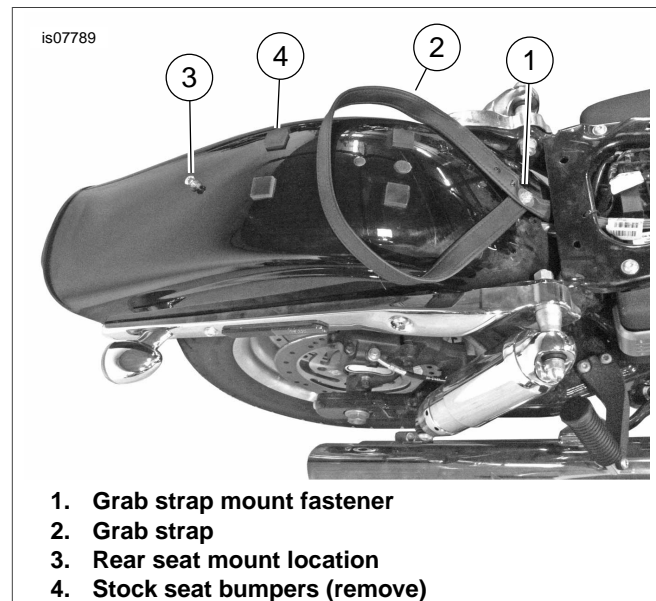

Figure 4. Dyna Model Rear Fender Configuration
2. See Figure 4. Remove the OE grab strap (2), if present, by removing the nut and washer (1) from the forward fender location. Save the hardware for later installation. Discard the strap.
4. If the motorcycle is not equipped with a grab strap mount stud at the forward strap-mount hole location (1), one must be installed in order to install the seat.
- b. See Figure 4. Install the flange screw from the underside of the fender through the grab strap mounting hole (1) in the fender. Secure the screw with the retention nut.
3. See Figure 4. Install the grab strap holes over the forward fender stud (1) so the stud protrudes inside the loop.